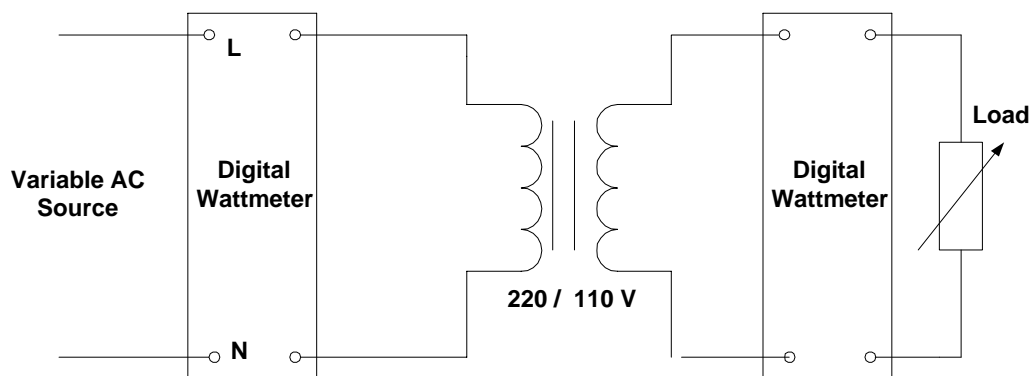

Fig. 1 : A Transformer with Load
3. Connect the circuit as shown in Fig.1.